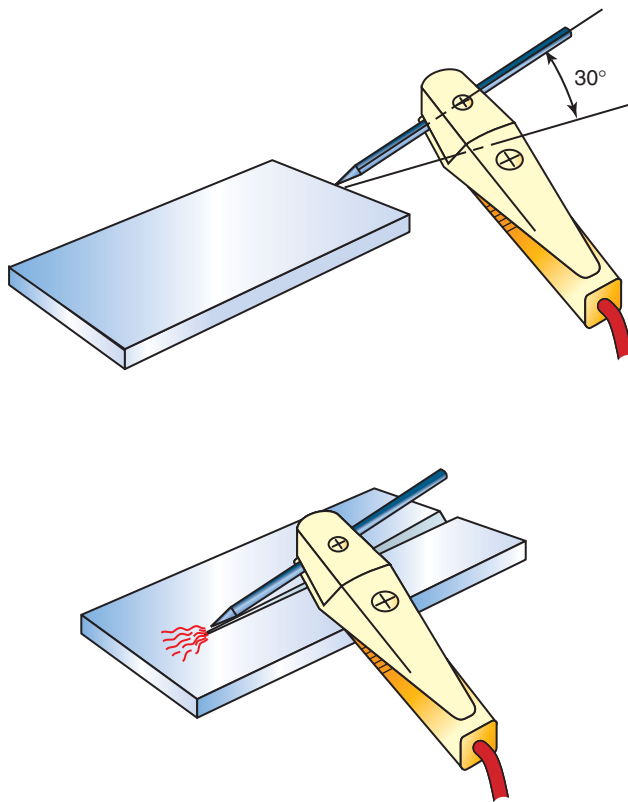

Figure 8.21 Air carbon arc U-groove gouging
8. Slowly bring the electrode down at about a 30° angle so that it will make contact with the plate near the starting edge, Figure 8.21. Be prepared for a loud, sharp sound when the arc starts.